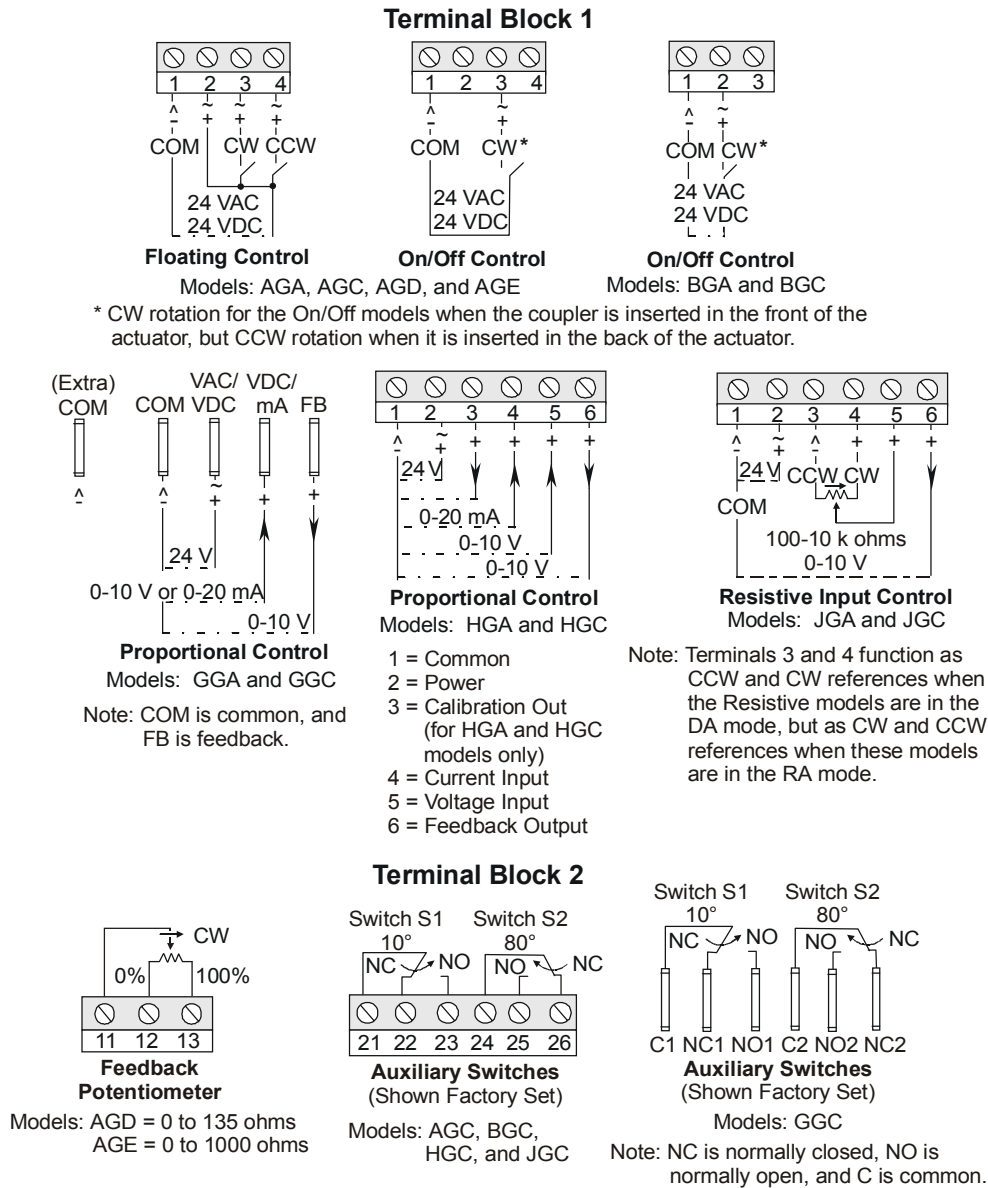

Figure 8: Wiring Diagrams for M9216 Models
Refer to Figure 8 for the applicable M9216 actuator.
3. Insert the cable wires through the hole in the conduit plug, and connect to the terminals using the appropriate wiring diagrams in Figure 8.
5. Insert the cable wires through the conduit adaptor assembly, and connect to the terminals using the wiring diagrams in Figure 8.
Reverse the control wiring connections at Terminals 3 and 4 to select RA operation for the floating models. (See Terminal Block 1 in Figure 8.)